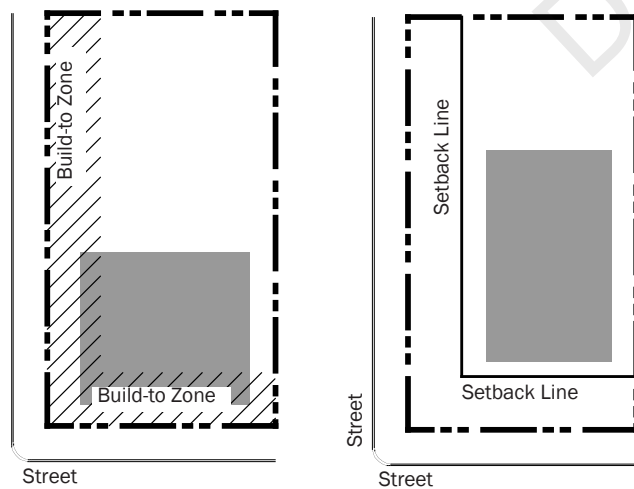

Figure 10-21-1C (1). Yorkville Form-Based Districts Regulating Plan.
These regulations apply to the downtown and adjacent redevelopment areas within the City as mapped on the City's zoning map. Refer to Figure 10-21-1C (1) for affected parcels.
The following Street Districts are established for mixed use, commercial, and residential development within Yorkville. Refer to Figure 10-21-1C (1) for the Regulating Plan of the Street Districts.